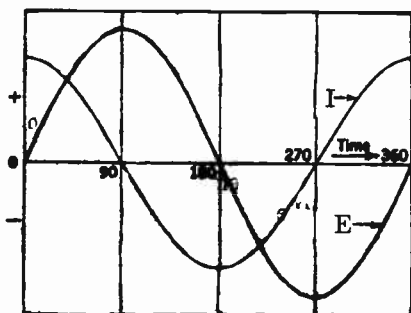

FIG. 4-29. PURE CAPACITIVE CIRCUIT.
**THE PHASE ANGLE.** In an inductive circuit, we found that the current lags the impressed voltage. In a capacitive circuit, the opposite is true; **THE CURRENT LEADS THE IMPRESSED VOLTAGE.** The current leads the source voltage by 90 degrees in a pure capacitive circuit (see Fig. 4-29). If we introduce some resistance into the circuit, the current will lead the voltage